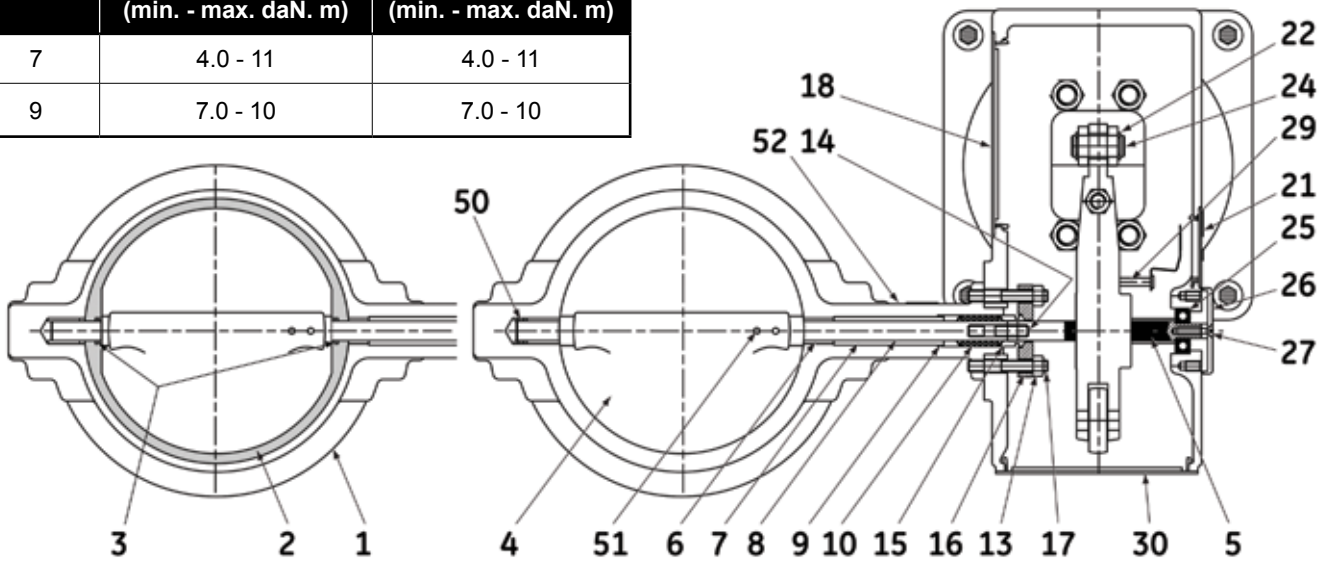
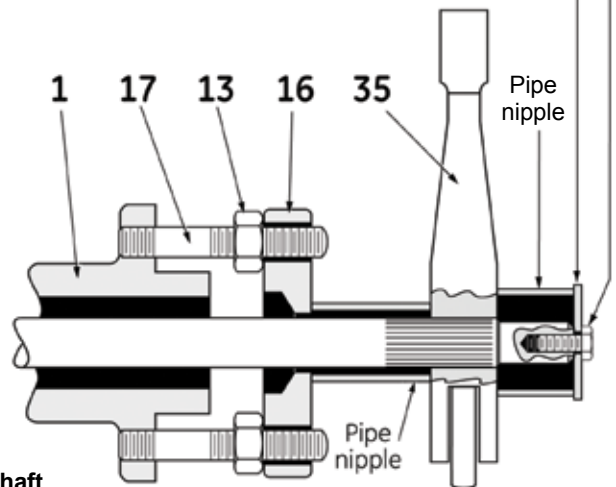

Figure 5
Figure 7
1. By-pass the MiniTork valve and relieve fluid pressure from body. Remove the front cover (21), rear cover (18) and spring barrel boss cover (33).
2. Pressurize the actuator such that the lever (35) takes an intermediate position. Remove clevis pin clip (22) and clevis pin (24) and release the pressure.
3. Remove cap screws (101) and lock washers (102). Separate actuator and install it on opposite side of yoke (34) with cap screws (101) and lock washers (102), applying proper torques. Refer to table of Figure 5 for proper screw torque values according to actuator size.
## (Figures 5, 6, and 7)
8. Remove the valve body (4), the packing-box ring (9) and the spacer tube (7). **If the valve body has an elastomer sleeve (2), remove the sleeve and the two O-rings (3).** Lastly, disengage the bearings (6) and the spring (50). (There is no spring (50) on valves with an elastomer sleeve. See Figure 5).
9. Examine all parts for damage due to erosion corrosion or wear. Replace all defective parts, pins (51) and all packing. Clean all reused parts thoroughly prior to reassembly.
## (Figures 5 and 6)
1. Fit the spring (50) (**only on valve bodies without sleeve**) and the lower bearing in the body. Coat the shaft (8) with Molykote G (or equivalent) along the entire surface roughly corresponding to the spacer tube
2. **If the valve is equipped with a sleeve**, coat the two O-rings (3) with silicone grease and fit them inside the sleeve. Slide the sleeve into the body and align the shaft entry bore holes with those of the body (see Figure 5).
5. Install the packing box ring (9), the packing (10) and the packing gland (15). The oblique section of each ring must be shifted 120° in relation to that of the previous ring.
6. Slip the yoke (34) some of the way over the end of the shaft, at the same time fitting the following parts in the order shown below: packing box flange (16), disk arm (35) and ring (5). Lastly, finish fitting the yoke on the studs (14) by fitting the shaft into the bearing (25). Apply the lever (35) against the spacer tube (5) and tighten the yoke nuts (13). Screw the packing box nuts onto the studs (17) but do not tighten them.
- b) **Also make sure that the arm (35) is in the correct position on the shaft. Refer to the markings made during disassembly. If parts have been replaced, assess their final relative position by holding them one in front of the other before fitting them. For this purpose, if the shaft or disk or both have been replaced and the two parts are not pinned together, remember to align the slot at the end of the shaft with the disk (the disk being locked in the closed position).**
7. Insert two identical shims between the disk and the valve body, on either side of the shaft (**except for valves equipped with a sleeve**). If a new disk and/or shaft has/have been fitted, pull the shaft until it shoulders on the ball bearing (25) using a washer of suitable dimensions and a socket head cap screw (dimensions given in Figure 7). Make sure that the slot at the end of the shaft is still aligned with the disk.
8. Fit the actuator and tighten it using cap screws (101) and lock washers (102) to the torque value indicated in Figure 5.
The handwheel is always mounted on the opposite side from the actuator (see Figure 5).